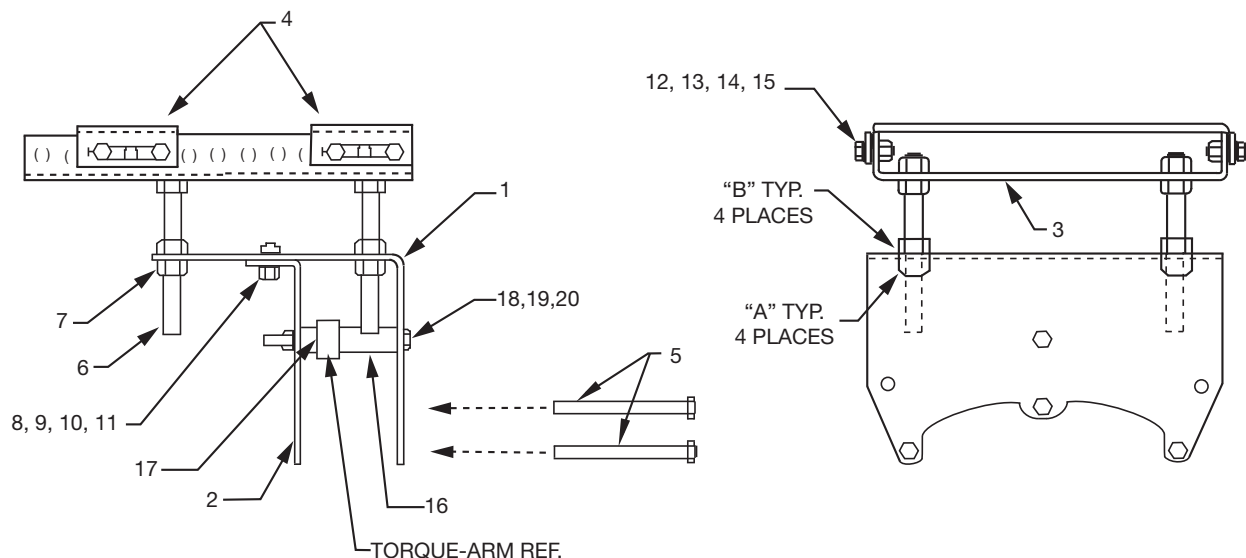

Figure 2 - TAB Bottom Motor Mount Parts
5. Install mounting plate (3) with adjusting studs (6) as shown in Figure 2.
6. Assemble the front motor rail (4) by loosely bolting through the two front holes on each side of the mounting plate (3) with mounting rail bolts (12).